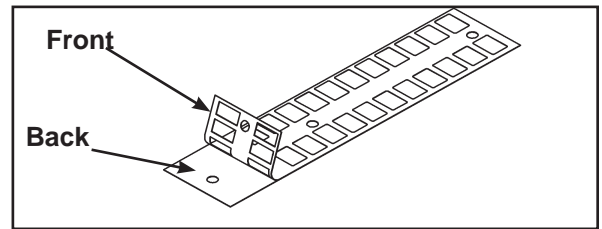

Figure 3
- A. Slowly and carefully peel off back side of decal. **NOTE:** When peeling off back cover, make sure that the decals remain attached to the front sticker. Figure 3.